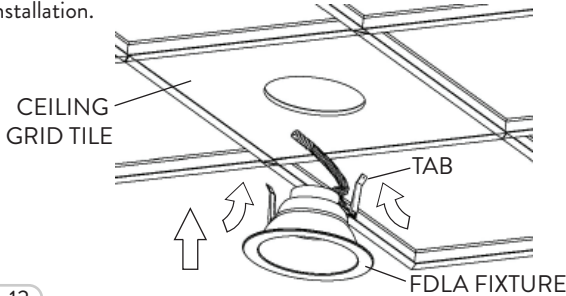

FIG. 13
- 3 Prior to installation, shut power OFF to the fixture. After the T-Grid Ceiling Plate is properly installed into the ceiling, one can then mount the FDLA Fixture. With the retention Tabs upward, place the Fixture through the hole (Fig. 13). Please refer to wiring diagram for wire installation.